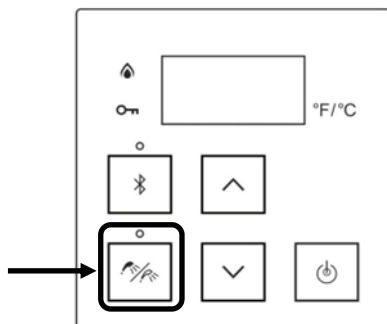

Figure 64
3. Press the “A” button for 1 second. The controller displays 01A or 01b (Figure 64).